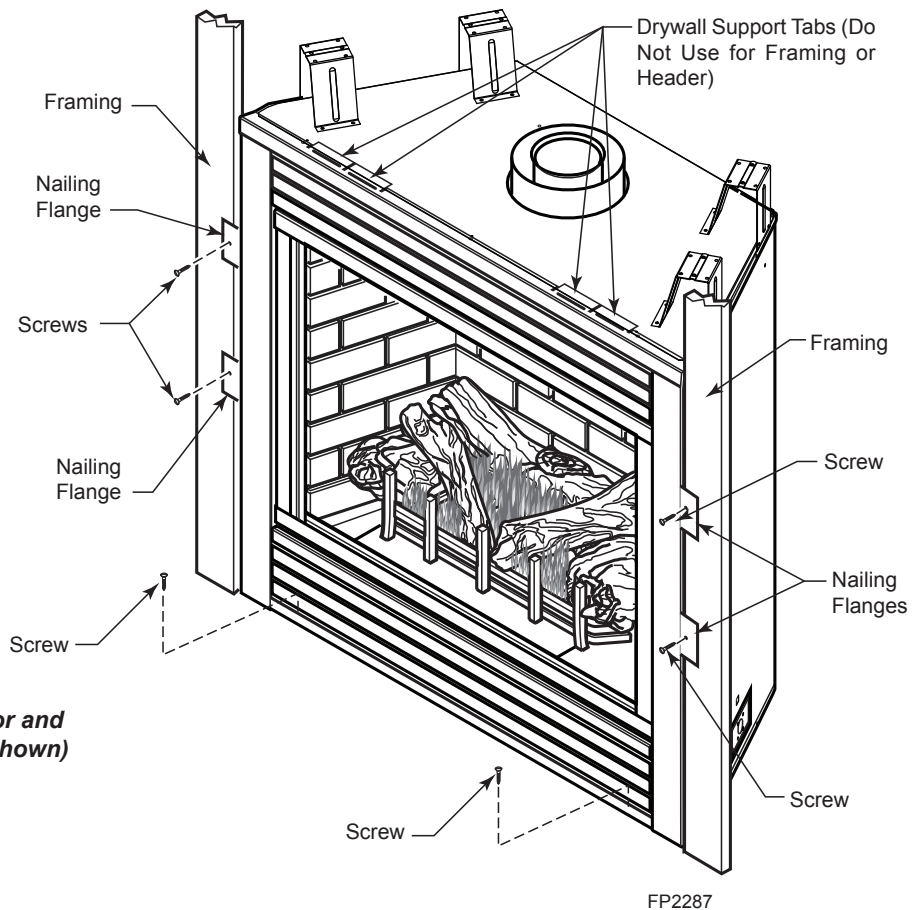

Figure 7 -
The fireplace must be secured to the floor and/or to framing studs as shown in *Figure 7*. Use two (2) wood screws or masonry/ concrete screws to secure fireplace to the floor. Use four (4) screws to attach fireplace to framing. The side nailing flanges are 1/2" or 5/8" to accommodate different wall thickness.